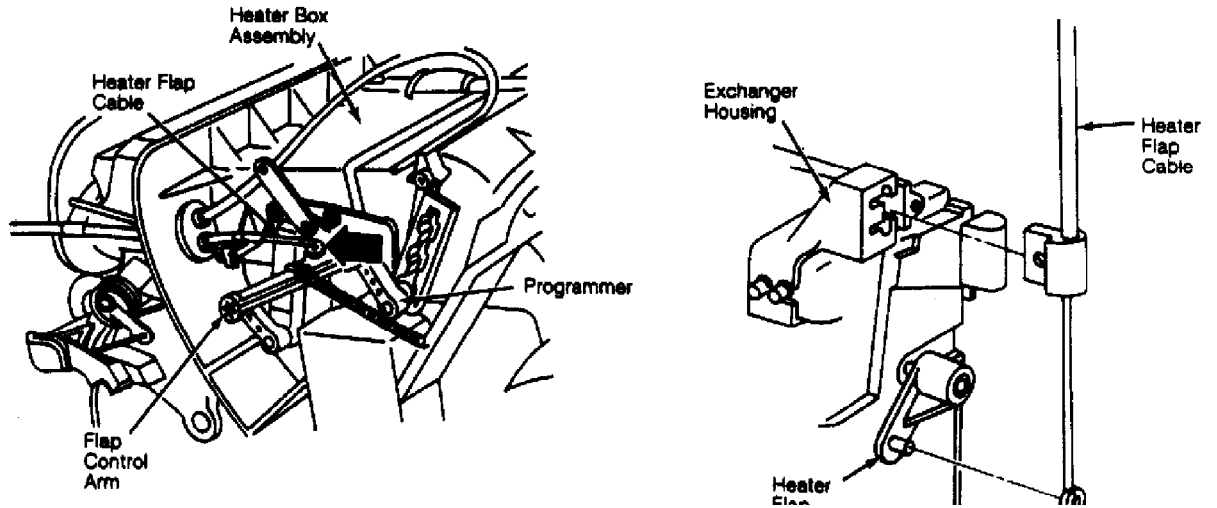

Fig. 12: Heater Flap Control Cable Adjustment
1) Disconnect the heater flap cable at programmer. Inner cable end must not come up against lever arm. See Fig. 12.